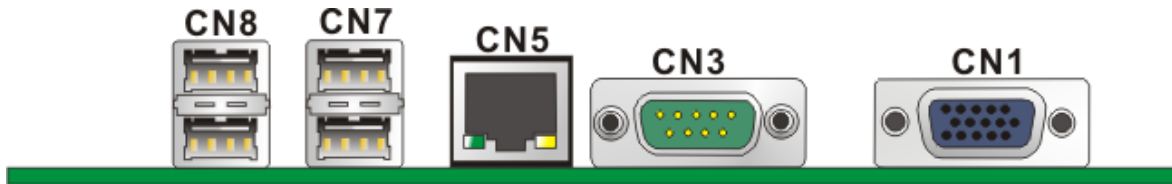

Figure 4-20: WAFER-LX2 On-board External Interface Connectors
The WAFER-LX2 external peripheral interface connectors are listed below and shown in Figure 4-20:
CN Location:	See Figure 4-20
CN Location: See **Figure 4-20**
- CN Location:** See Figure 4-20